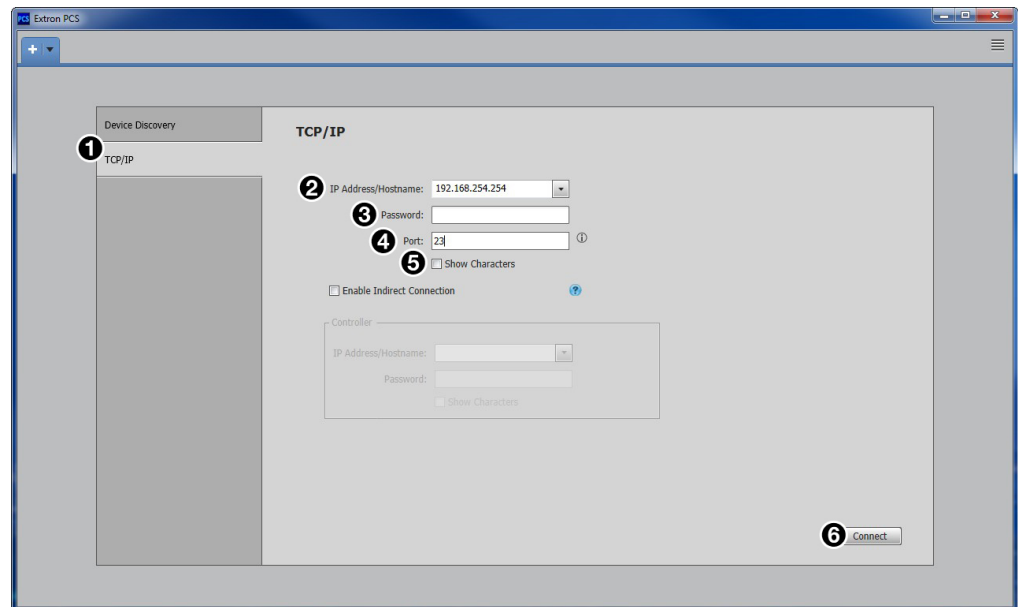

Figure 30. Comm Port Selection Windows
1. Click the **TCP/IP** tab (see figure 30, ❶).
2. In the **IP Address/Hostname** field (❷), enter the IP address of the desired device.